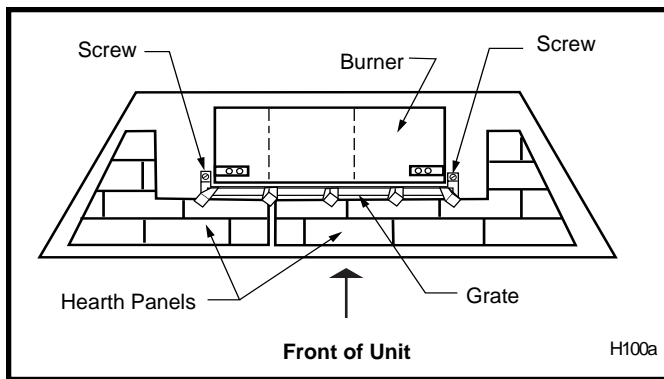

Fig. 43 Hearth panel location.
2. Remove two (2) screws securing grate to hearth pan. (Fig. 43)